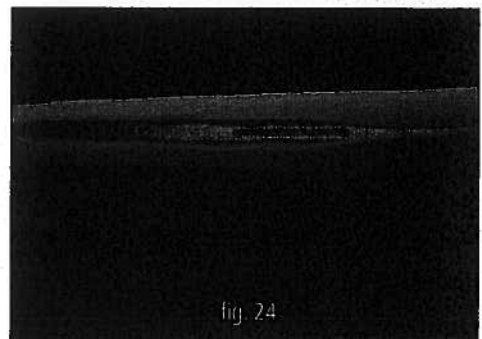

fig. 24
STEP 2: Make sure the seams of the top foam pads are oriented so that the Allen Head Screws have space to move (fig. 24). This allows the bed to articulate easily.